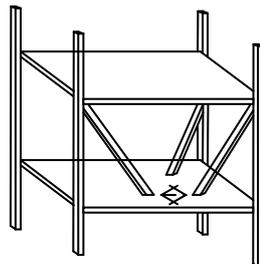

Figure 11
4.8.2 The passage should be kept in all directions. That is to say, the vertical cross sections in all directions are not fully blockaded. For example, the projection of Figure 11 is shown as Figure 12. The dashed lines shown in Figure 12 are the passages.